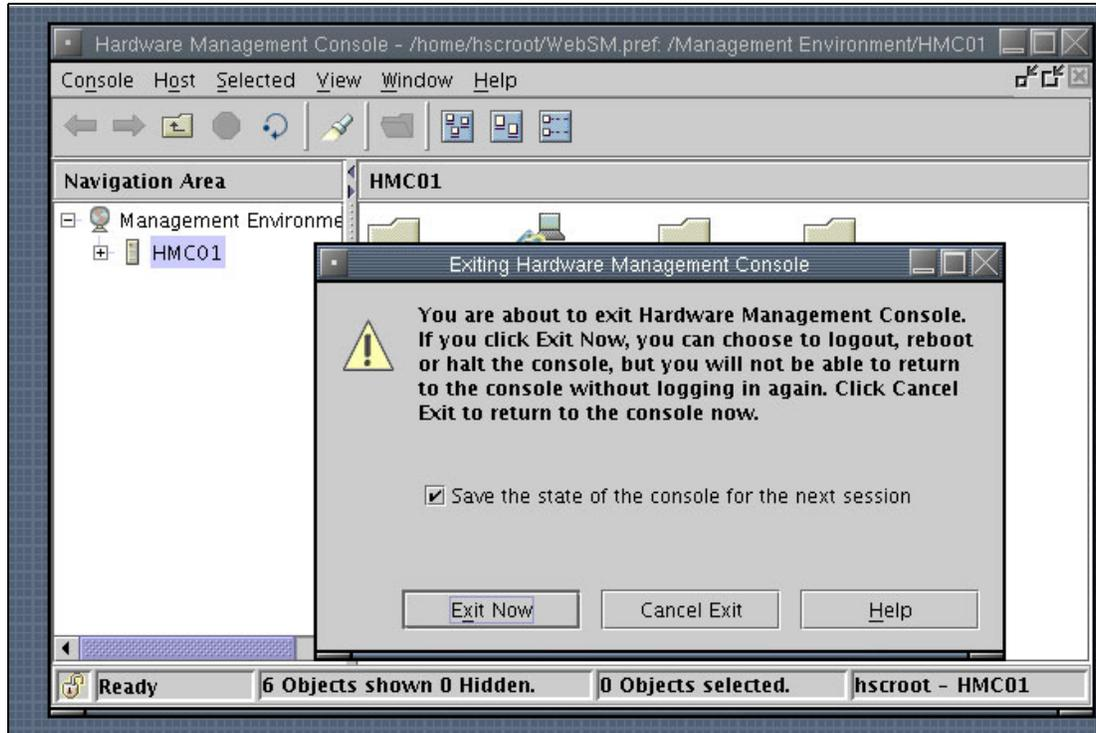

Figure 3-16 Exit the HMC console
1. Select the "console" from the top pull down menu. In this menu you can add and remove hosts, change the desktop theme and fonts, start an **rshterm**, or exit from the HMC, as shown in Figure 3-16.
2. Click **Exit** and the confirmation/menu panel appears. See Figure 3-16.